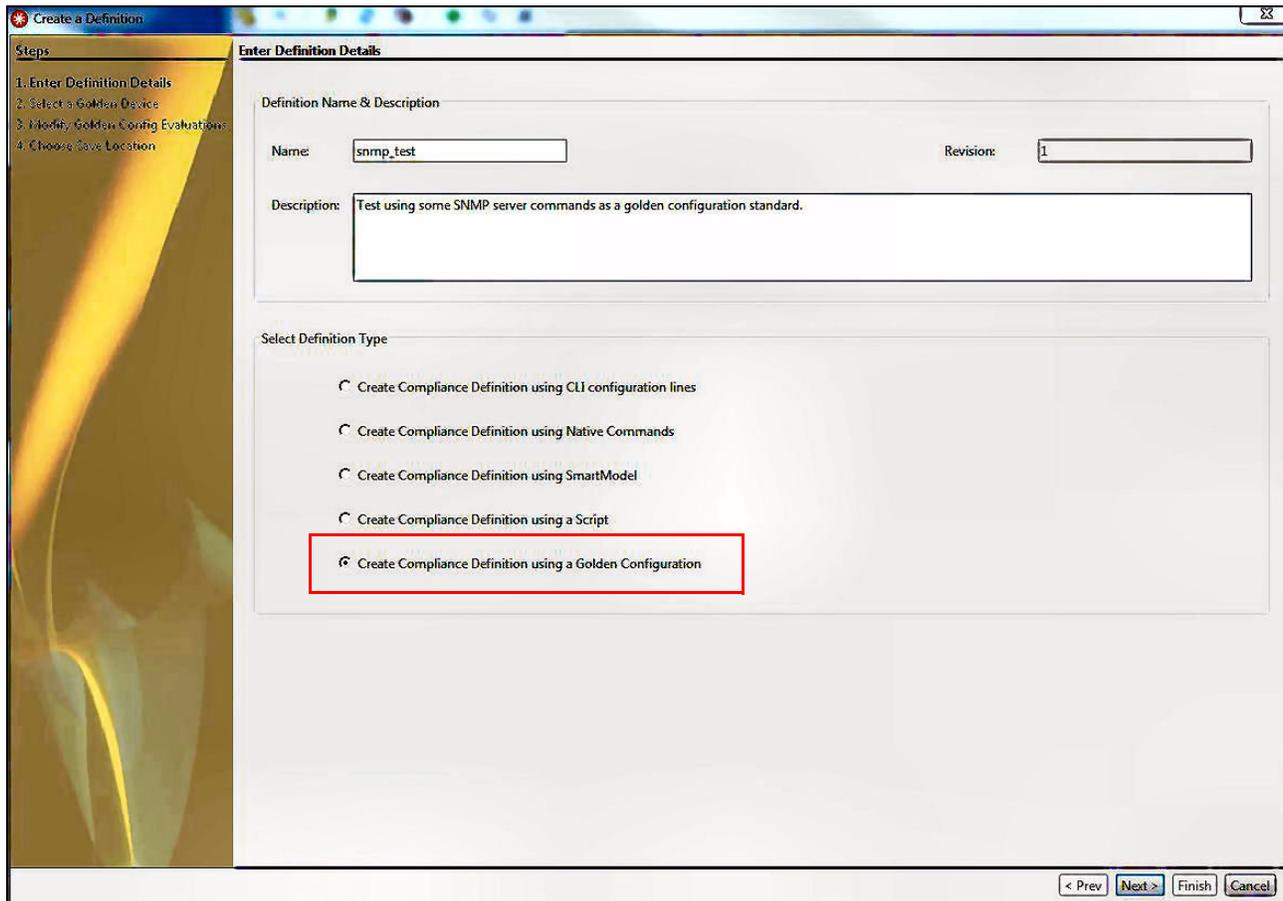

Figure 4-13 Golden configuration definition type
2. Select the **Create Compliance Definition using a Golden Configuration** option in the next pane, as shown in Figure 4-13.